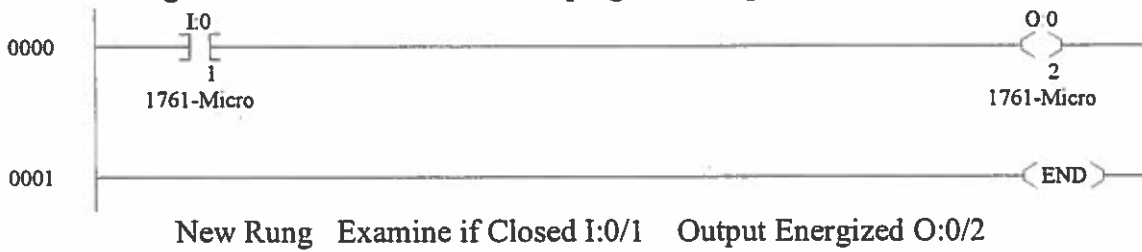

Figure 9-7
8. Now go OFFLINE and create a new program in Figure 9-7.